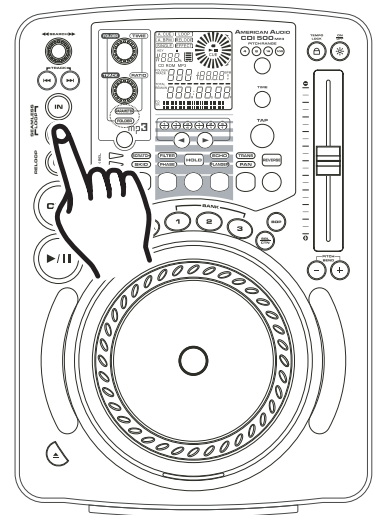

Figure 21
- 1) Press the **OUT BUTTON (24)** to return to normal play from the loops cue point. (Figure 21). This will disengage the **SEAMLESS LOOP** mode and allows you to edit the loops ending point.
- 2) Press the **OUT BUTTON (24)** again when you reach your new ending point (Figure 21).
- **FOR A SHORTER LOOP:** Press the **OUT BUTTON (24)** at sooner point in the track (Figure 21).
- **FOR LONGER LOOP:** Press the **OUT BUTTON (24)** at later point in the track (Figure 21).